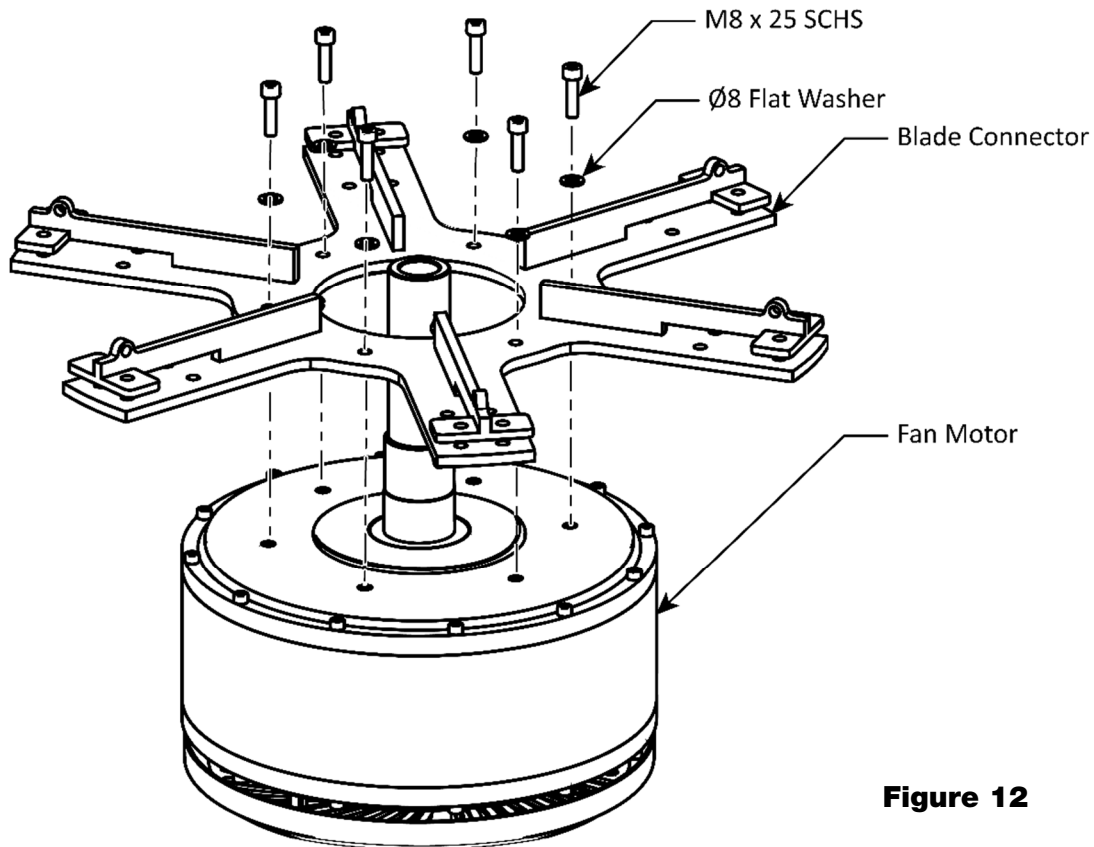

Figure 12
1. Refer to **figure 12**, and retrieve the following:
2. Place the Blade Connector on the Fan Motor and secure using the Flat Washers and Socket Head Cap Screws. Tighten securely. Refer to **figure 12** below.